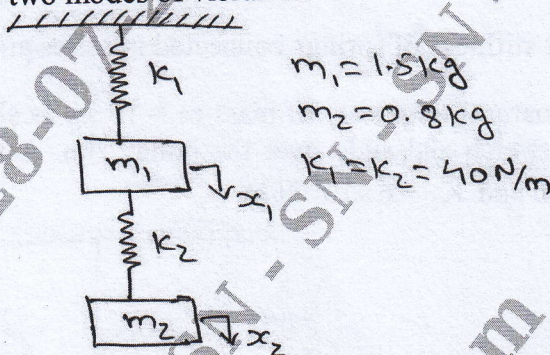

Fig. Q7 (b)
b. The figure Fig. Q7 (b) below shows a vibrating system having 2 degrees of freedom. Determine the 2 natural frequencies of vibrations and the ratio of amplitudes of motion of m_1 and m_2 . For the two modes of vibration. (14 Marks)